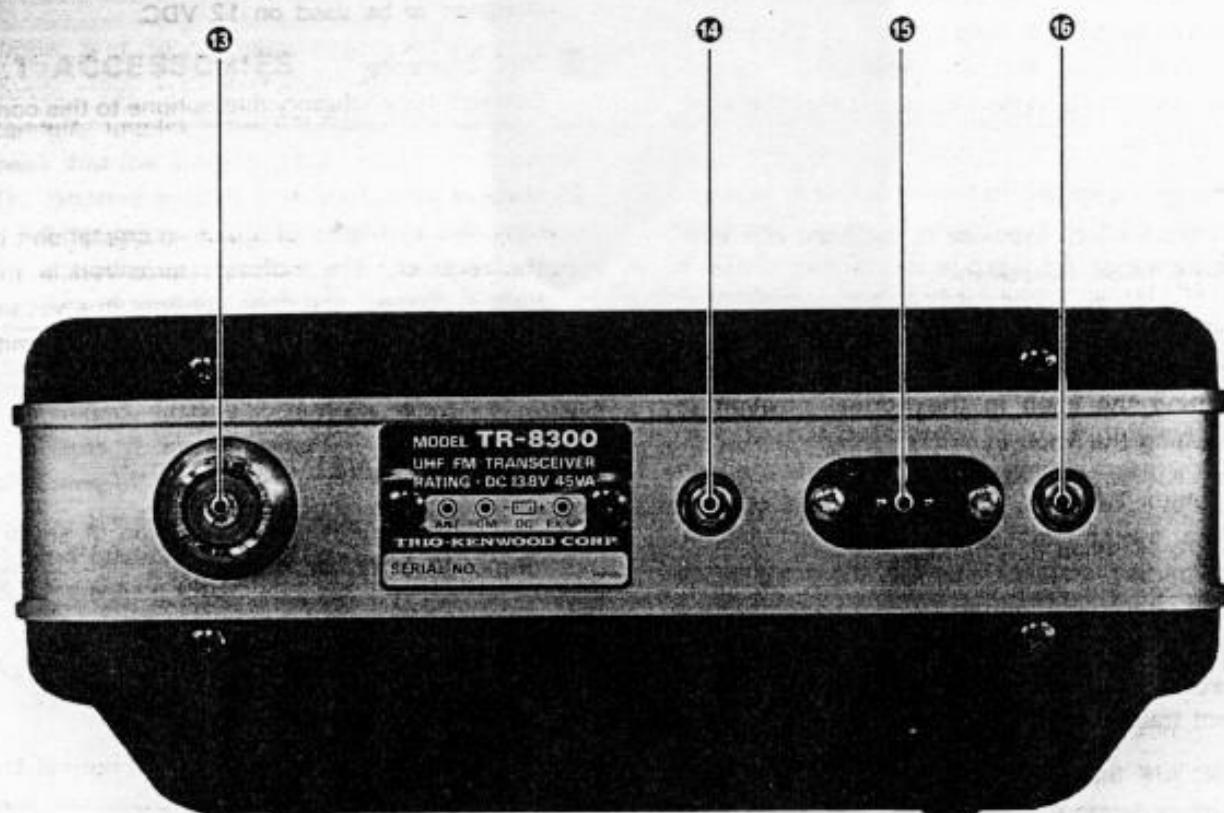

Fig. 2
2.2 REAR PANEL (Refer to Fig. 2)
⑬ ANT Connector — For connection of any 50 ohm 440 MHz band antenna.
⑭ Center Meter Jack